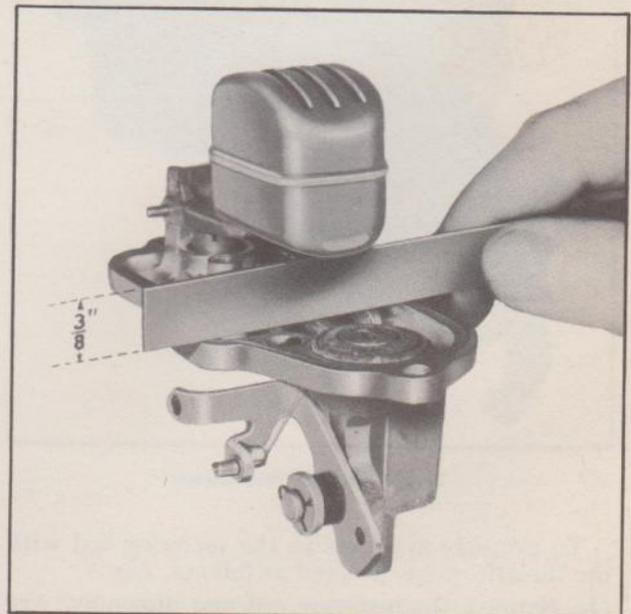

Fig. 8—Checking Float Level
underside of the bowl cover (with the gasket removed) to the top of the float. This measurement should be $\frac{3}{8}$ ". The gauge shown in Fig. 8 is a convenient tool for making this check.
9. With the cover turned upside down, check the float level by measuring from the cover to the float. This distance should be 3/8". See Fig. 8.